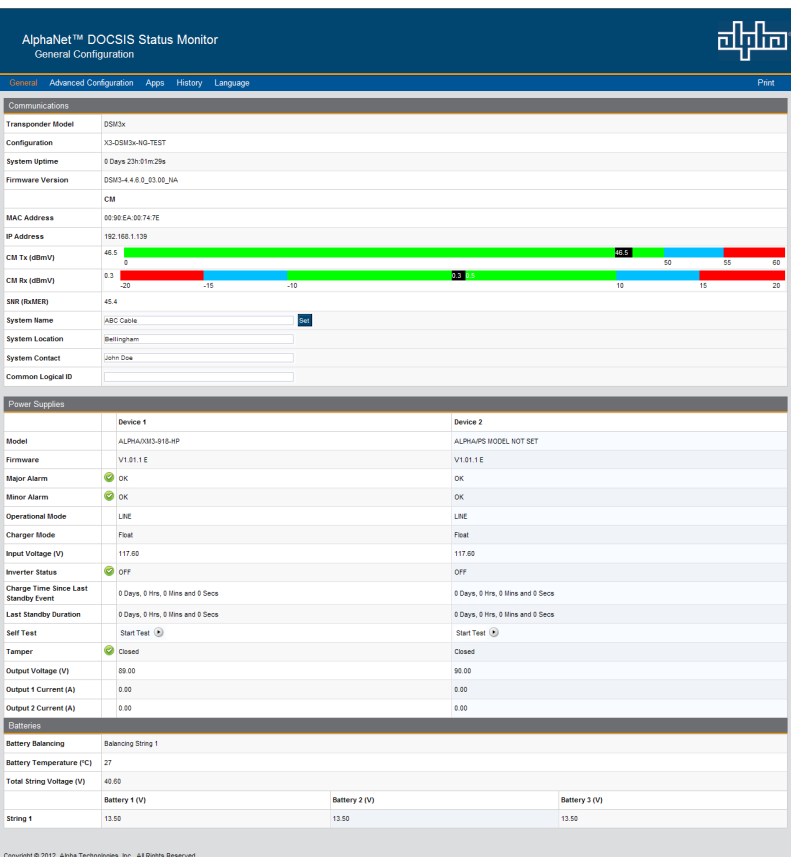

Fig. 2-37, DM3/DSM3/IDH4 Series Web Page
4. The transponder’s web server home page will appear (**Fig. 2-37**). **Note: For the DSM3/IDH4 series, this may take up to 45 seconds when the transponder is initially powered up with no RF connection.**